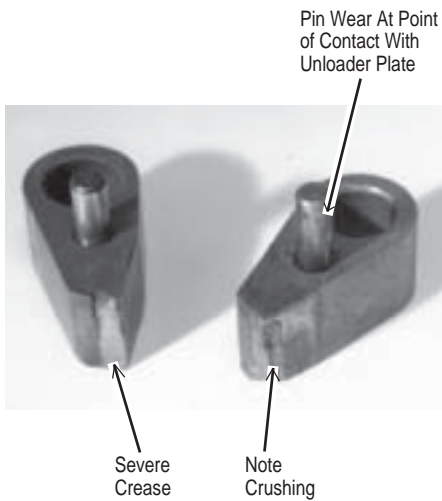

FIG. 3
3. The handle dog (pawl) should be examined for damage as outlined in Part 2 and in addition, the dog pin should be examined for bending or wear in the area that the pin contacts the camming surface of the unloader plate. (Refer to Fig. 3 & 4.)